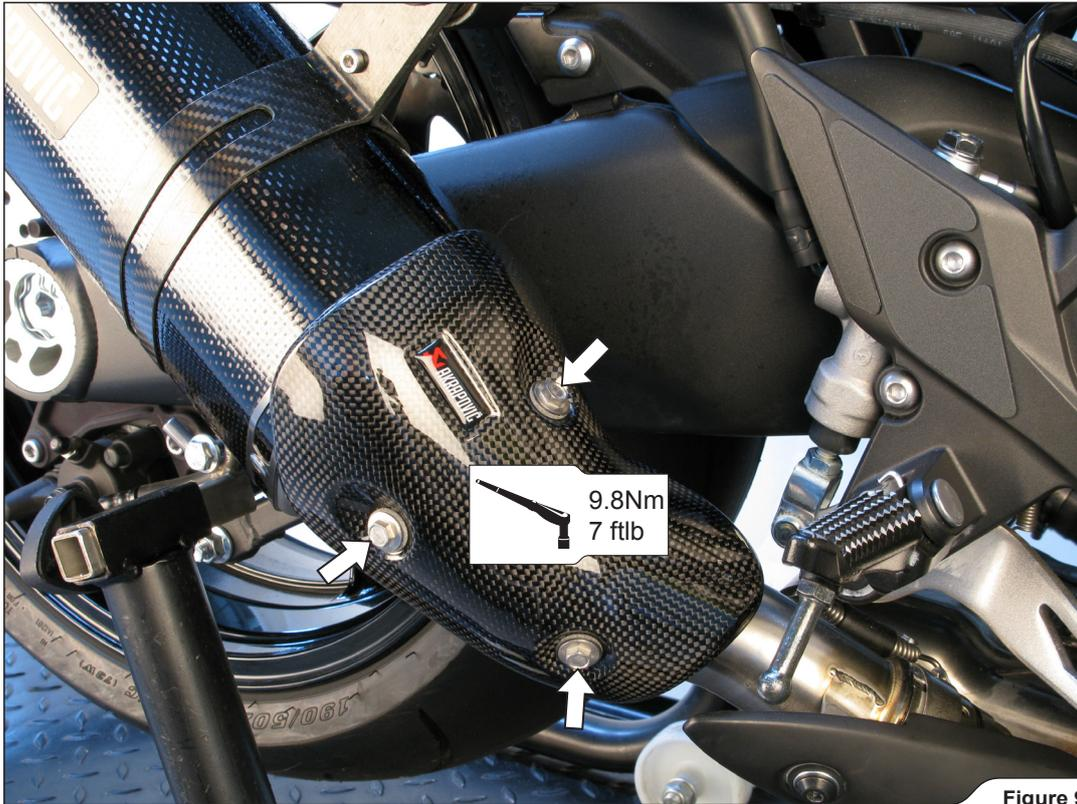

Figure 9
5. Tighten the heat shields' bolts to the specified torque (Figure 9, 10).